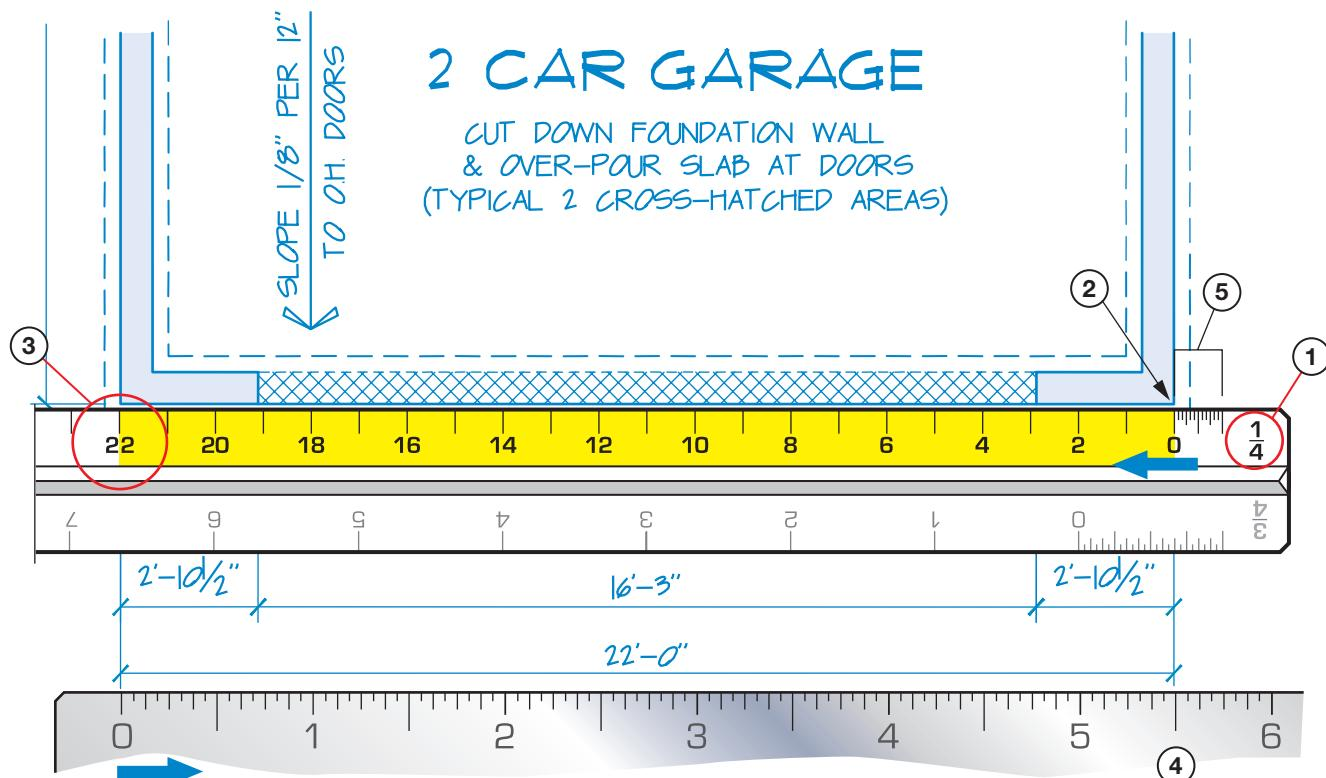

Figure 8.7 Using the scales on an architectural ruler, a carpenter, builder, or designer can draw large-scale areas on plan sheets.
How to Apply the Architect's Scale Learning to use the architect's scale is important to reading and interpreting working drawings. Follow the steps shown below and refer to Figure 8.7 to practice with an architect's scale and develop accuracy and confidence in reading working drawings. The figure in this example is part of plan sheet A-5 the detached garage from the La Chapelle Plan But the technique can be used throughout any scaled set of plans using an architectural ruler.
- Find the appropriate fraction mark at the end of the scale that corresponds to the scale of plan sheet A-5. In this example shown in Figure 8.7, $1/4'' = 1'$ is used.